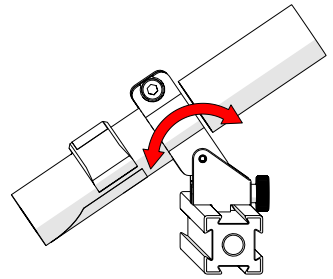

Fig. 178 - Aim guide
3. Adjust the guide's friction pivot to aim the guide as required (*Fig. 178*).